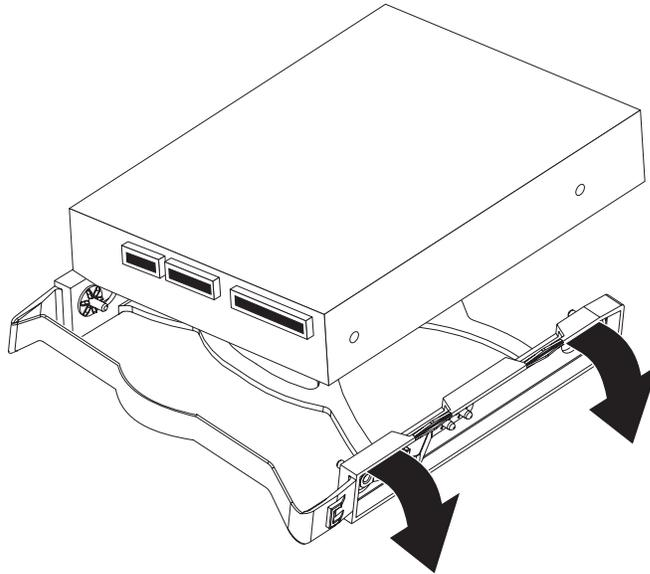

Figure 20. Attaching the drive to the drive tray
13. Attach the new drive to the drive tray. Place the drive on the drive tray and align the holes on the drive with the mounting pins on the drive tray (see Figure 20 on page 98). Gently pull both sides of the drive tray outward and insert the mounting pins into the holes on the drive.